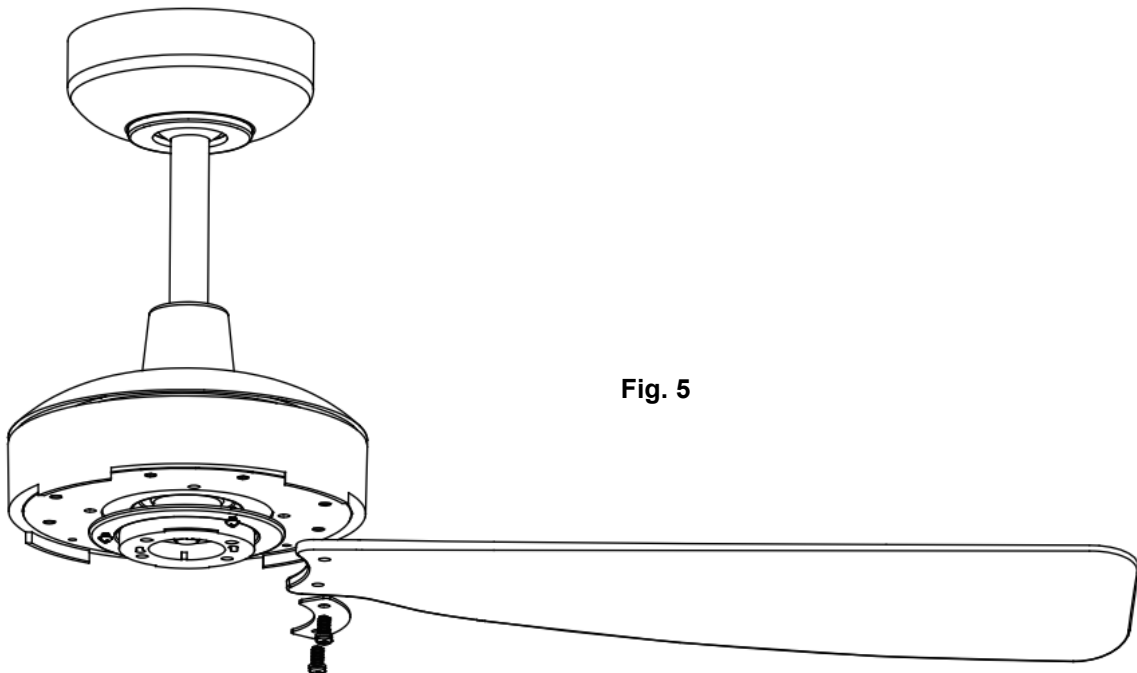

Fig. 5
INSTALLATION OF BLADE (Fig. 5)
1. Orient the blade, support plate and fan blade onto the fan assembly (Fig.5)
Mount the fan blade onto the fan assembly using three blade screws with lockwashers (supplied in fan parts bag) (Fig.5).